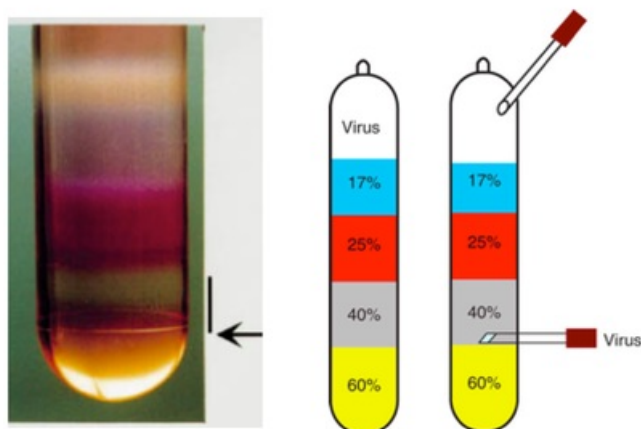

Figure 2:
- In a biosafety cabinet, carefully puncture the QuickSeal tube at the interface of the 60% and 40% gradient (see Figure 2, in abstract section) with an 18 g needle.